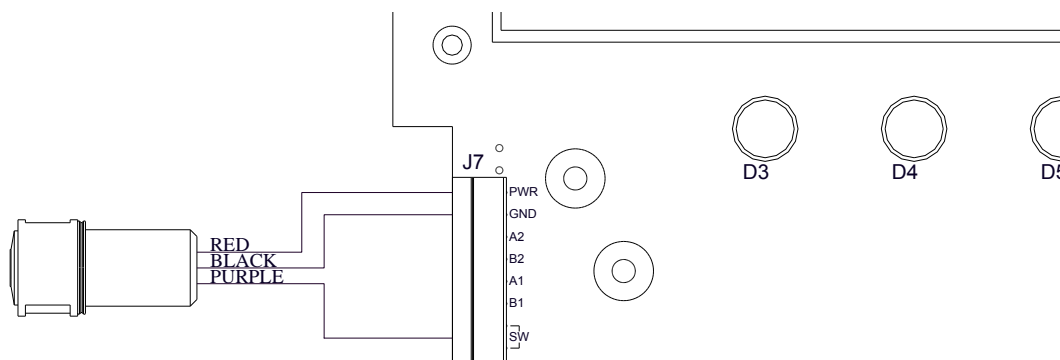

Figure 24 Oldham C1D1 Switch Connections
- c. Connect the purple wire to the SW connection nearest the B1 terminal (Figure 24)